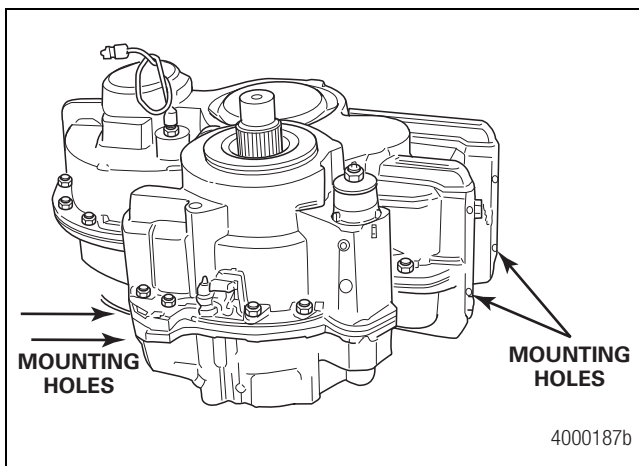

Figure 4.18
4. Attach a suitable lifting device to the eye-bolts. Lift the rear cover from the front case. Figure 4.18.